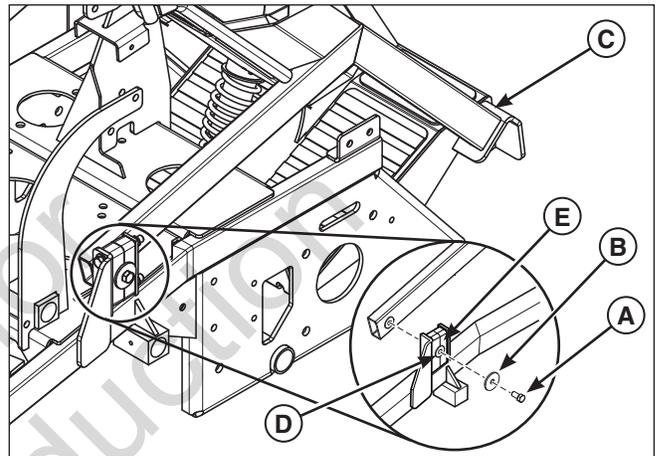

Figure 62. Operator Compartment Front Pivots
9. There are two (2) 1/2" bolts and washers (A & B, Figure 62) that secure the operator compartment (C) to the unit at the front pivots. Loosen and remove both 1/2" bolts and washers.
2. Place the operator compartment assembly (**C**, **Figure 62**) on the unit and loosely install the two (2) 1/2" bolts and washers (**A & B**) through the spacers (**D**) in the rubber pivot mounts (**E**) and into operator compartment front pivots.